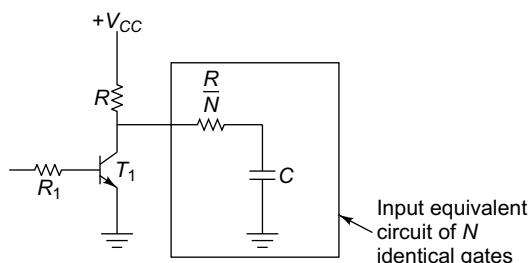

Fig. 6.55
19. Determine the rise time of a RTL circuit as depicted in Fig. 6.55. Assume $R_1 = 450$ ohms, $R = 640$ ohms, $C = 5$ pF, $N = 10$